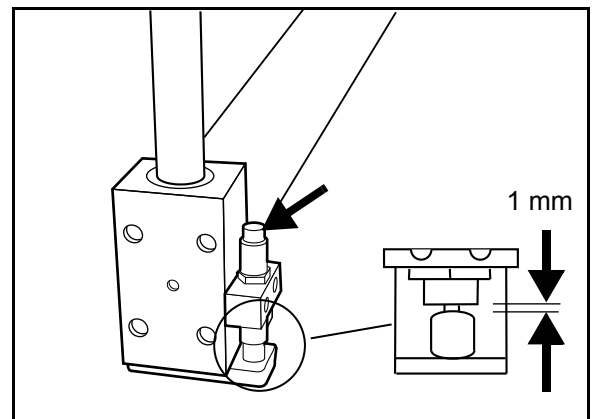

Fig. 14
- Adjust the gap by loosening the lock nuts and turning the adjuster screw. See Fig. 14